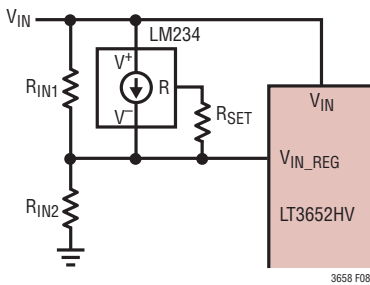

Figure 8. MPPT Temperature Compensation Network
In the circuit shown in figure 8,
As the temperature coefficient for V_{MP} is similar to that of V_{OC} , the specified temperature coefficient for V_{OC} (TC) of -78mV/°C and the specified peak power voltage ($V_{MP}(25^\circ C)$) of 17.6V can be inserted into the equations to calculate the appropriate resistor values for the temperature compensation network in Figure 8. With R_{SET} equal to 1000Ω, then: